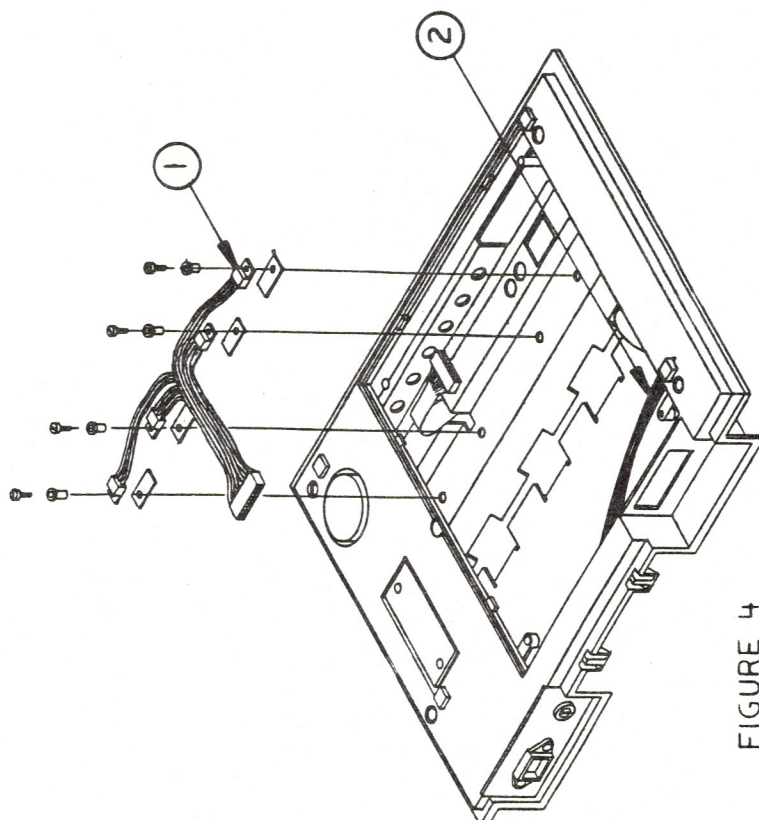

FIGURE 4
**DOT MATRIX PRINTER - TRANSISTOR ASSEMBLIES (Figure 4)**
**IMAGEWRITER - PRINT HEAD ASSEMBLY (Figure 4)**